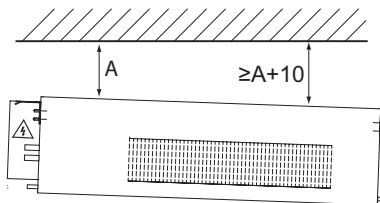

Fig.1
- Ensure a slight slope towards the outflow side to prevent water from stagnating in the tray, see **Fig.1**